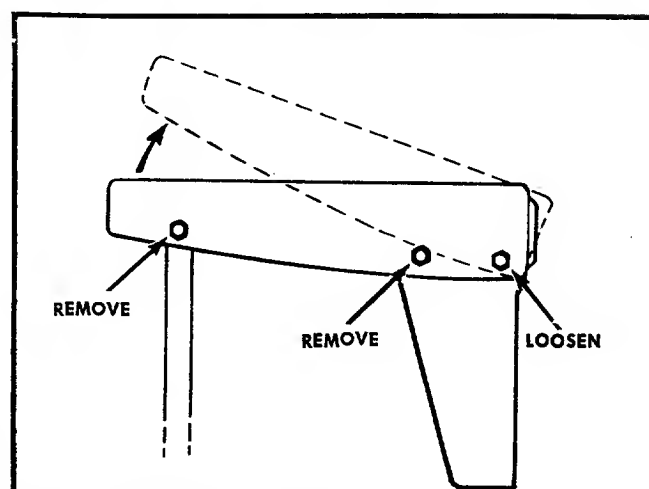

FIGURE 3. HOOD RIGHT SIDE
- Step 3. Remove the two bolts and nuts on the right hand side of the hood and loosen the front bolt and nut as shown in figure 3 and raise the hood.